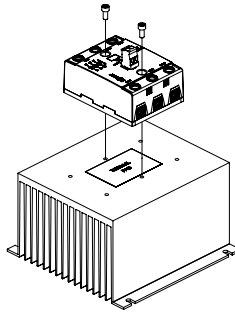

fig.1 SSR mounted on HS053 heat sink
- SSR housing mounting holes have a diameter of 0.341 in (8.66mm). Two screws are needed to mount the SSR onto a heat sink (See fig.1). Mounting screws are sold separately as HK8. Otherwise, recommended screw size is 8-32 (socket) using an allen wrench (9/64 in) for the installation. Choose screw length considering mounting surface hole depth and SSR baseplate thickness of 0.125 in (3.2 mm).